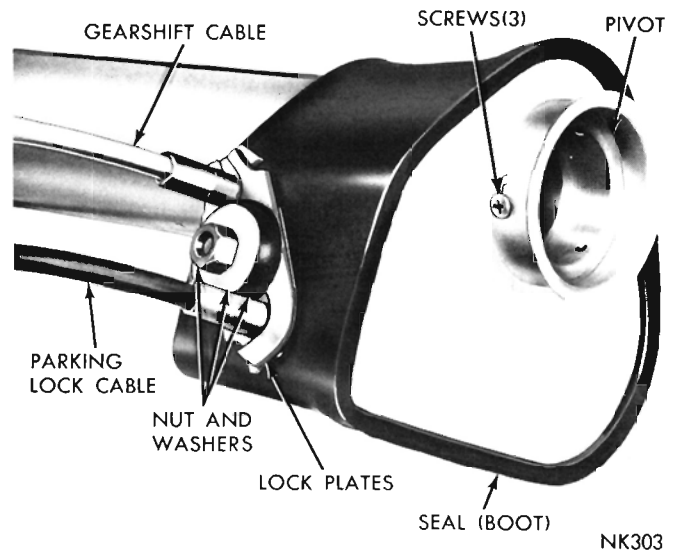

Fig. 8—Removing or Installing Steering Column Lower Plate
(4) Remove plate and seal washer from the sprag lever pivot at lower end of the column (Fig. 8). Remove the cable lock plate retaining nut and washers.
(13) Install the column jacket lower seal and plate, and secure with the three screws. Position edge of seal boot over the plate flange (Fig. 8).